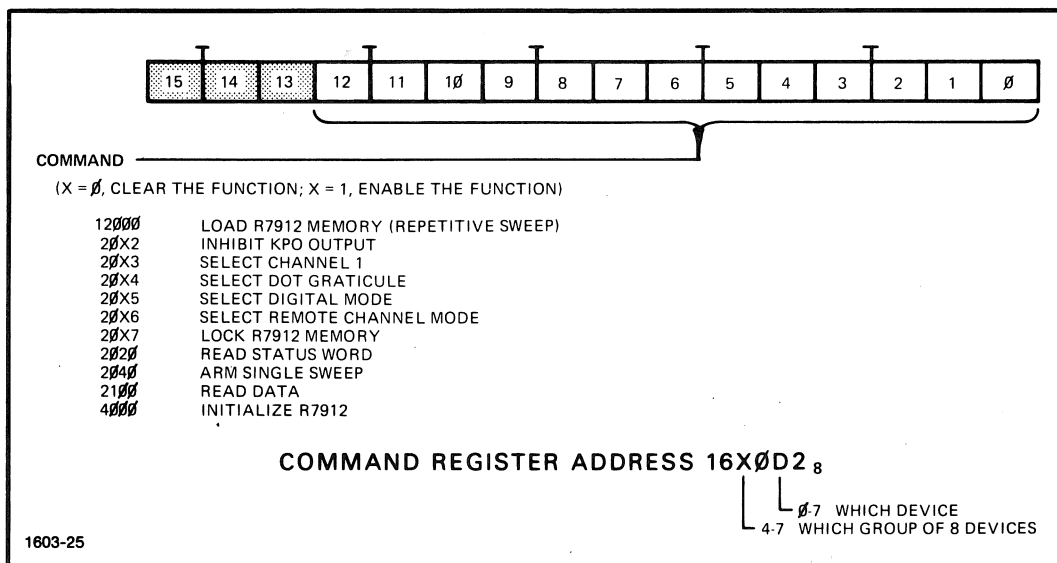

Fig. 2-8. R7912 Command Word Format.
- 2) COMMAND REGISTER. The R7912/CP Bus Interface has a register similar to the DAR. It performs the same function of receiving the Command word from the CP1100 (see Fig. 2-8).